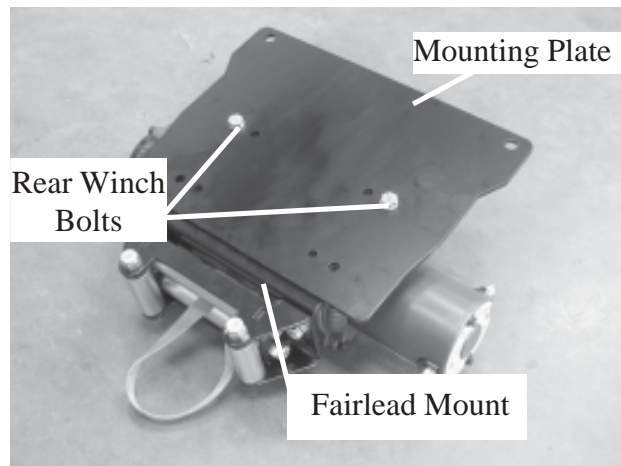

Figure 4
4. Fasten the rear bolts through the fairlead bracket into the winch using the 3/8" bolts, supplied with the winch, Figure 4. Tighten the bolts to the recommended torque.